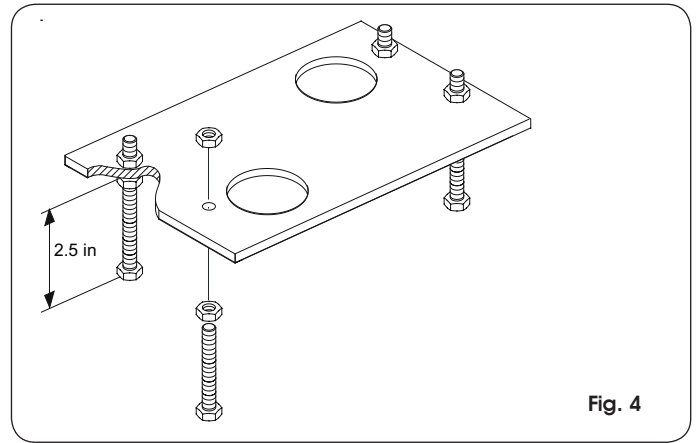
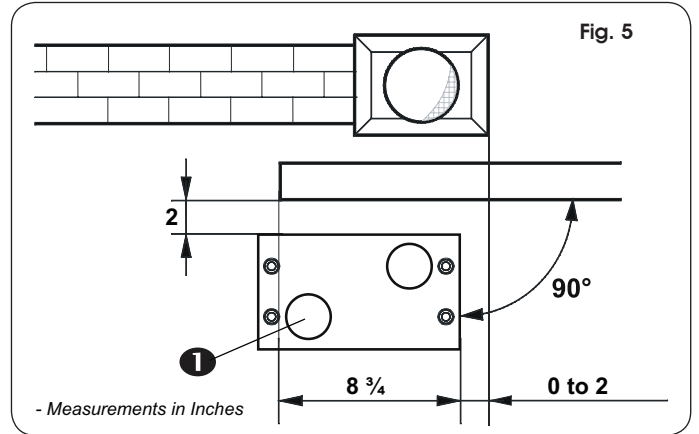

Fig. 4
Fig. 5
1. Assemble the foundation plate as shown in Fig 4. The foundation plate must be located as shown in Fig 5 (right closing) or Fig 6 (left closing) to ensure that the rack and pinion mesh correctly.
4. After the concrete is poured in the forms and before it has a chance to set, insert the foundation plate into the cement and position it flush with the top of the concrete and aligned with the top of the lower gate frame. Use the dimensions shown in Figs 5 or 6 to align your foundation plate. Allow the concrete to set for a minimum of two days before installing the operator.